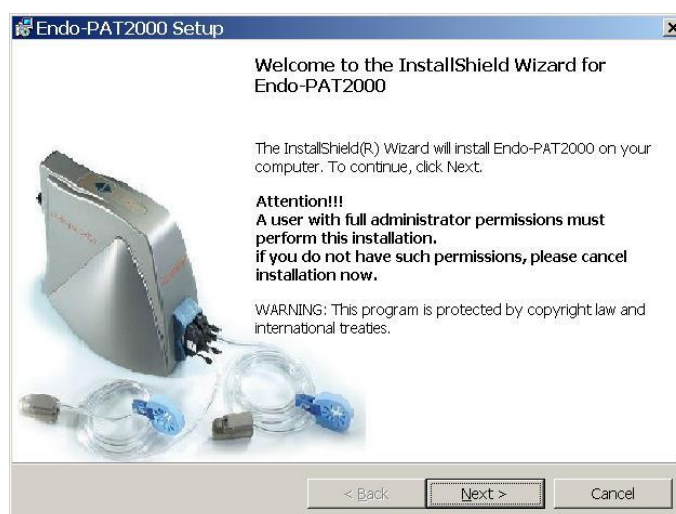

Figure 4 - Installshield wizard
3. The Installshield wizard prepares the computer for installation. When prompted, click next to proceed with the installation (Figure 4).